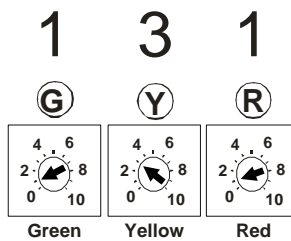

FIGURE 3
6. Remove the door from the Fi2000R module to expose the LED's. **NOTE:** The Fi2000R base pot settings come preset from the factory for the V-Star 1300, shown in (Figure. 3.) Verify the wire connections by, (1), turning the ignition on while watching the 3 LED's. They will all light up for a few seconds, and then go off. This is correct. If there are no lights visible, make sure the side stand is up, bike is in neutral, clutch is in and handlebar engine switch is set to run. If there are still no lights visible, re-check that all connectors are fully engaged and the ground wire is connected correctly.